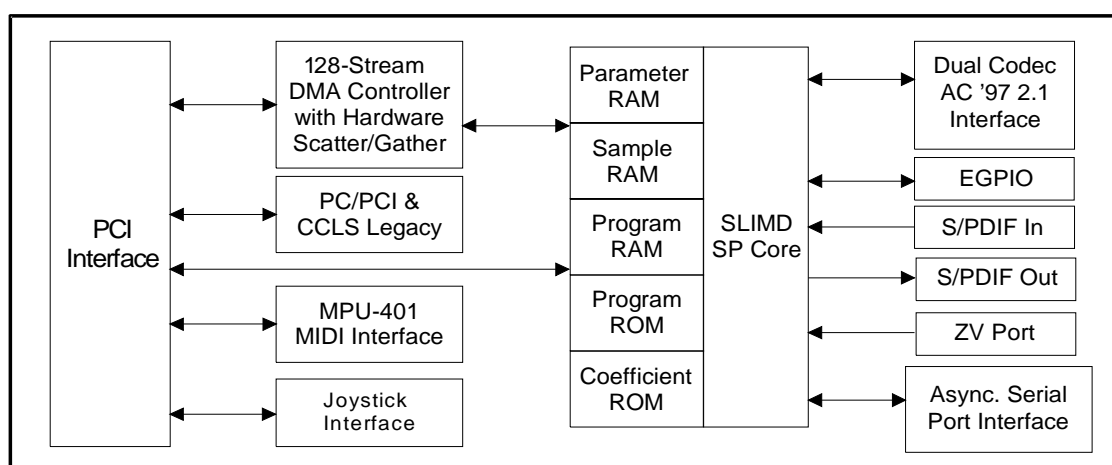

Figure 7. CS4630 Block Diagram
There are three main functional blocks within the CS4630: the Stream Processor, the PCI Interface, and the DMA Engine. A block diagram of the CS4630 device is shown in Figure 7. The Stream Processor (SP) is a high speed custom Digital Signal Processor (DSP) core specifically designed for